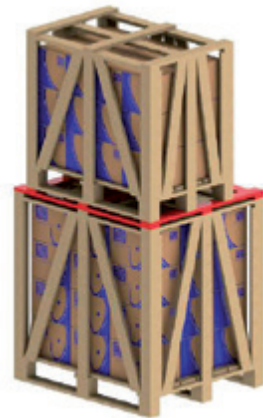

Figure 5.5 - Use of additional battens for stacking
4) When stacking smaller crates onto longer crates, always ensure that suitable wooden supports are provided to withstand the weight (see Figure 5.5). This condition usually occurs with motor packaging above IEC 225S/M (NEMA 364/5T) frame sizes.